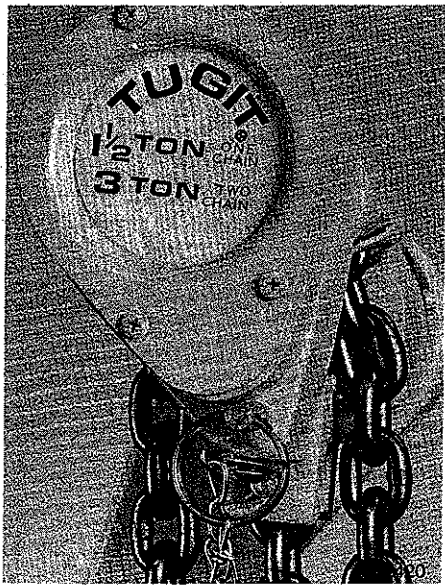

Figure 8-3.
- a. To convert hoist from 3 ton Double Line to 1-1/2 ton Single Line, position hoist as shown in Figure 8-3.